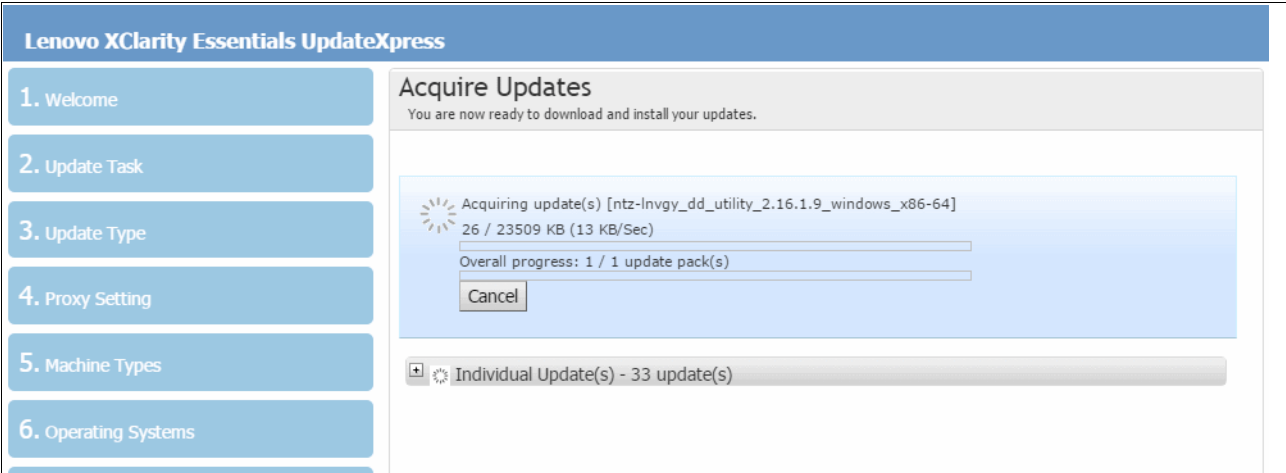

Figure 5-56 Acquiring selected updates for the SR950
12. UpdateXpress will retrieve the appropriate files to update the server, Figure 5-56.